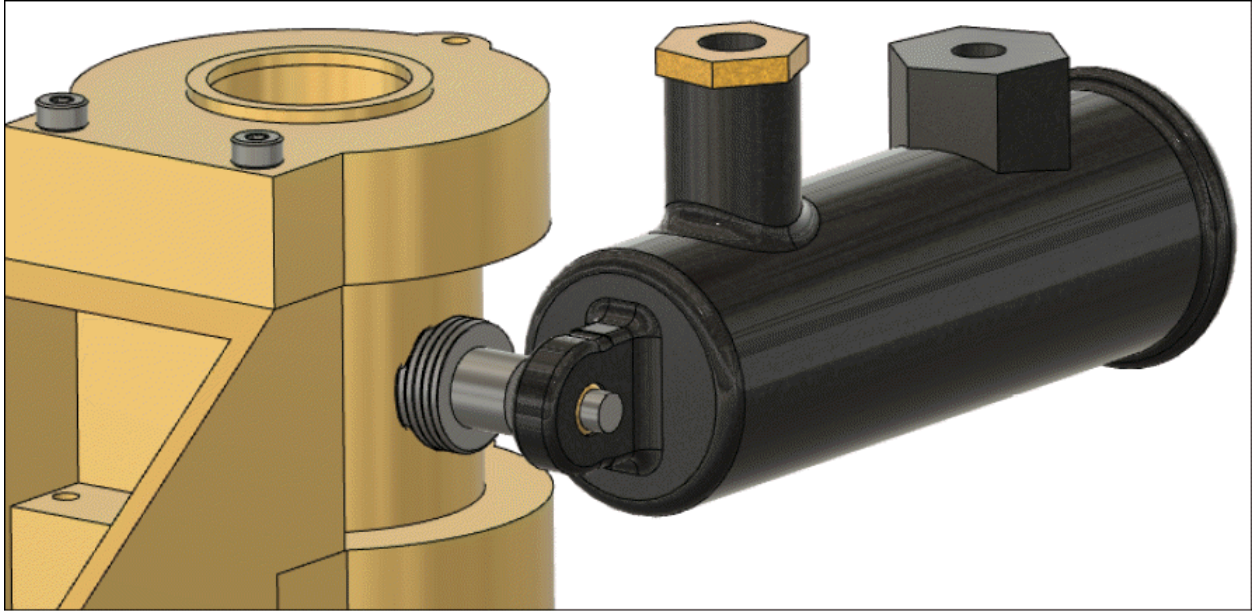

Figure-91. Components joined
- On selecting the snap point on second component, both the components will be joined; refer to Figure-91.